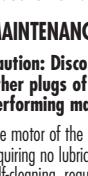

Fig.1
E) To avoid the possibility of the appliance plug or receptacle getting wet, position the appliance to one side of a wall-mounted receptacle and prevent water from dripping onto the receptacle or plug. A "drip loop" (Fig. 1) should be arranged for the cord connecting the appliance to the receptacle. The "drip loop" is that part of the cord below the level of the receptacle or the connector, if an extension cord is used, to prevent water travelling along the cord and coming in contact with the receptacle.
E) To avoid the possibility of the appliance plug or receptacle getting wet, position the appliance to one side of a wall-mounted receptacle and prevent water from dripping onto the receptacle or plug. A "drip loop" (Fig. 1) should be arranged for the cord connecting the appliance to the receptacle.